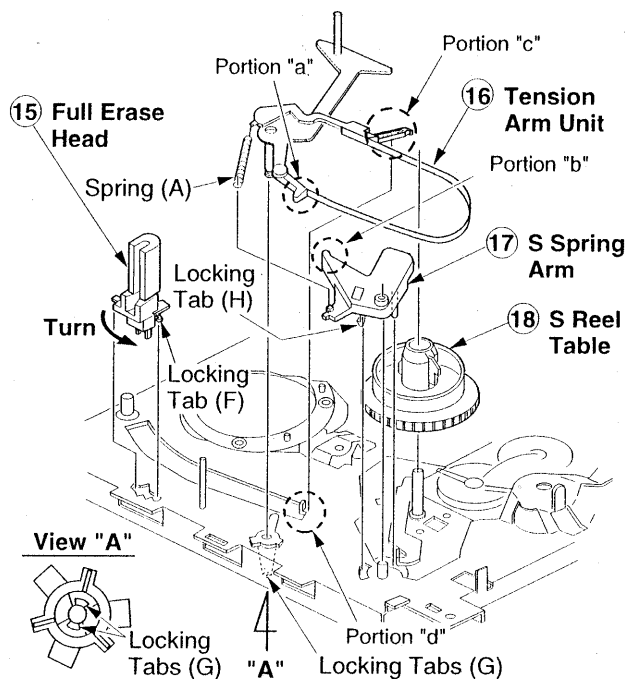

Fig. 14 - Full Erase Head/Tension Arm Unit/S-Spring Arm/S-Reel Table Removal
Full Erase Head/Tension Arm Unit/S-Spring Arm/S-Reel Table Removal (Figs. 14, 15)
1. Turn the full erase head fully counterclockwise as shown in Fig. 14 and then remove it.
2. Unhook spring (A).
3. Release two (2) locking tabs (F) and remove the tension arm unit by pulling it up.
4. Release locking tab (G) and remove the S-spring arm.